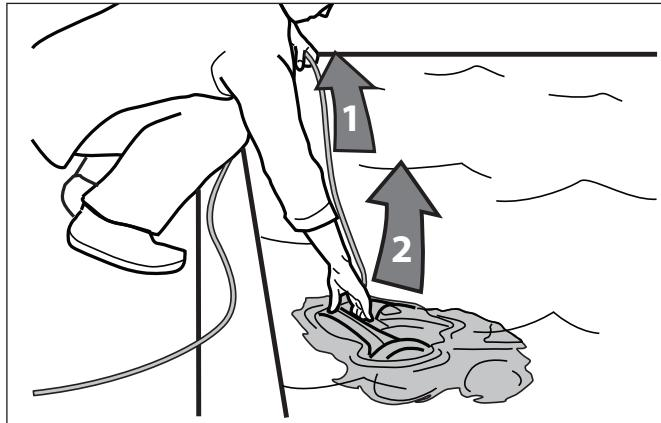

Figure 17. Remove Cleaner From Pool wth Handle
- When the cleaner is within arm's reach, use the handle to remove from the water (Figures 17, 18). Never lift the cleaner out of the pool by the floating cable.